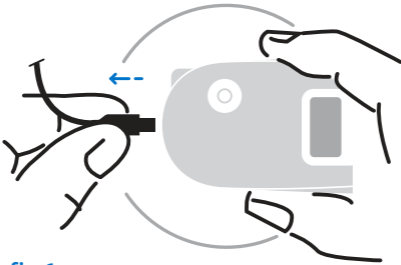

fig.6
- 2 Hold the driver in one hand and the actuator cable plug in the other hand and pull apart. *(fig.6)*